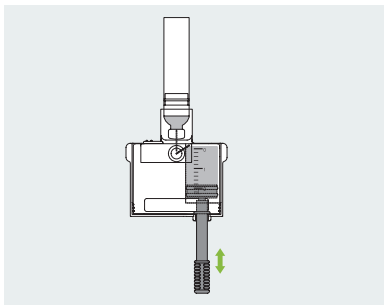

Figure 63
**5** Push the pullrod slowly to eject the bubbles back into the vial or cartridge, and then slowly pull to draw more insulin into the reservoir. Repeat until the reservoir has enough insulin and there are no visible air bubbles (Figure 63).